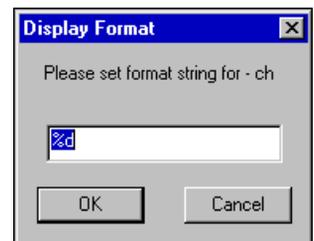

Figure 3-27 The Display Format window
3. Select **Format Window** to format all items in the window. The Display Format window is displayed (Figure 3-27).